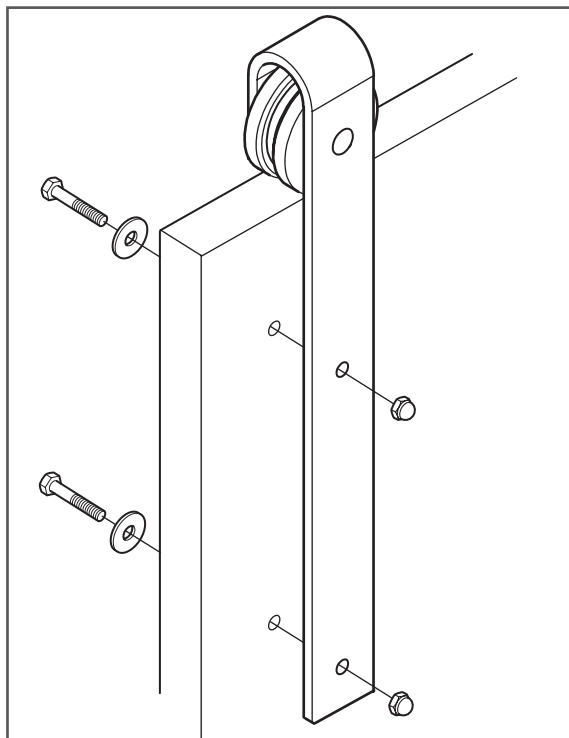

Figure 6
9. Install the hangers to the front of the door using hex bolts (C), washers (E), and acorn nuts (F) (figure 6).